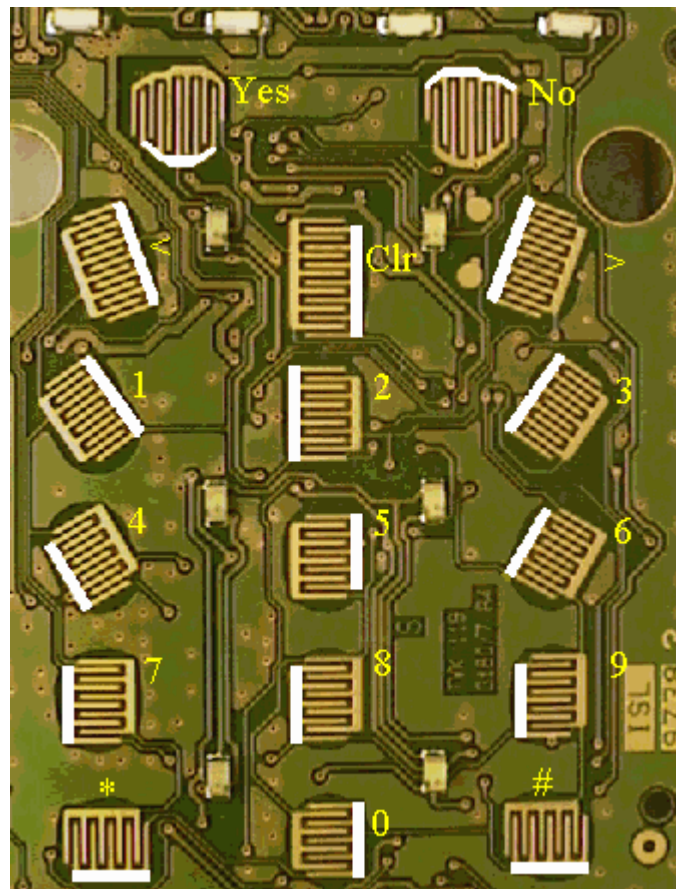

Fig. 7.6
- * If it doesn't help replacing D600 remove the dome switches again. Check if there's VDIG ($\sim 3.2V$) voltage at the marked sides of all the keypads in the row that isn't functional (fig. 7.6). Note that there's VBATT ($\sim 4.8V$) voltage at the marked side of the "No" keypad.